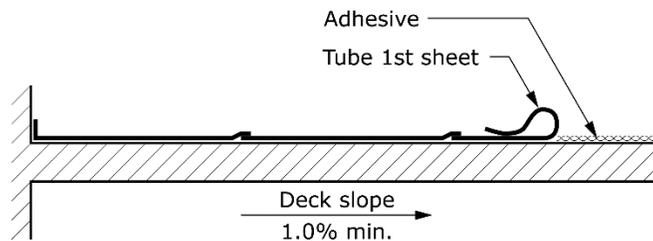

Figure 3
2. Beginning with the sheet at the bottom of the slope, tube (gently fold the Londeck over itself lengthwise) the lower half upslope. Take care, and keep the radius large when tubing the material. Failure to do so could result in damage to the Londeck, and visual imperfections may appear on the surface. See **Figure 3**.